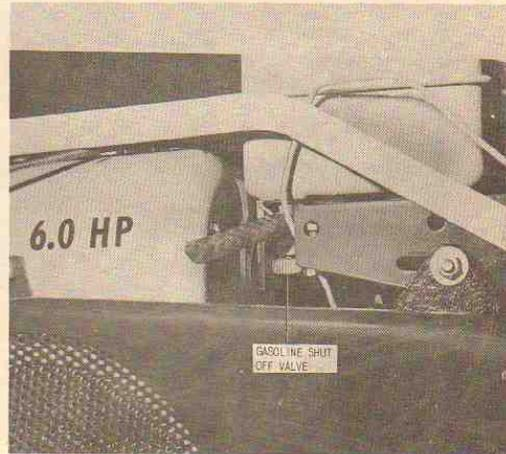

FIG. 7
2. Open gasoline shut-off valve located on L.H. side of gas tank. Refer to Fig. 7. Turn in counter-clockwise direction.